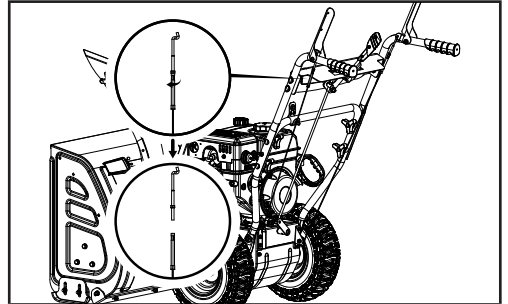

Figure 37
4. Unscrew the bolt of auger control wire (Fig. 37).